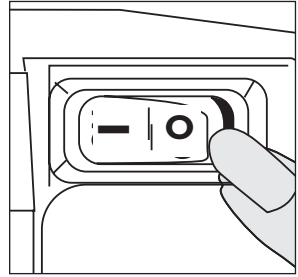

Figure 1
1. Make sure the power switch is in the “Off” (O) position (**Fig. 1**).